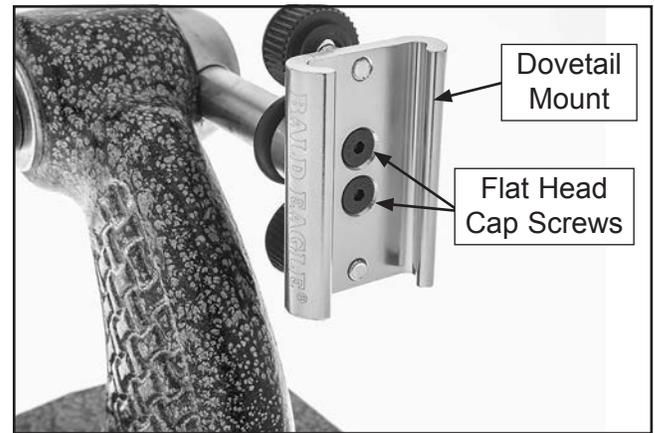

Figure 3. Dovetail mount installed.
1. Install dovetail mount with two pre-installed #10-32 x 1/2" flat head cap screws, as shown in Figure 3.